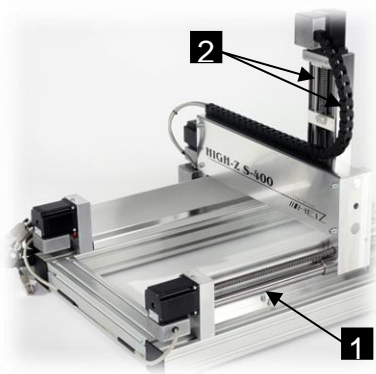

Fig. 28: linear guides of the X and Z-axis
- 2 Grease the linear guides of the X-axis (Fig. 28/1), the Z-axis (Fig. 28/2) well using a low-friction grease wetted cloth DIN 61650 or alternatively apply the fat with a suitable brush.